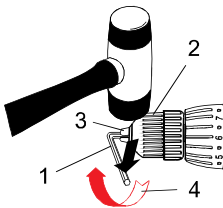

Fig. 11
2. Insert a 5/16" or larger hex key (1) into the chuck (2) and tighten the chuck jaws securely. Make sure the chuck jaws (3) are seated on flat surface of the hex key (Fig. 11).
3. Tap the hex key sharply with a mallet (4) in a clockwise direction. This action will loosen the screw in the chuck for easy removal.
2. Tap hex key sharply with a mallet in a CLOCKWISE direction (Fig. 11). This will tighten the chuck on the spindle.